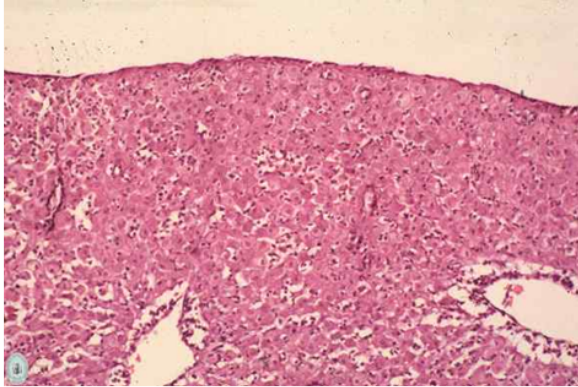

Figure 3a:
7.2.4 Using light microscopy of formalin fixed, paraffin embedded, and stained tissue (Figure 3a and 3b):